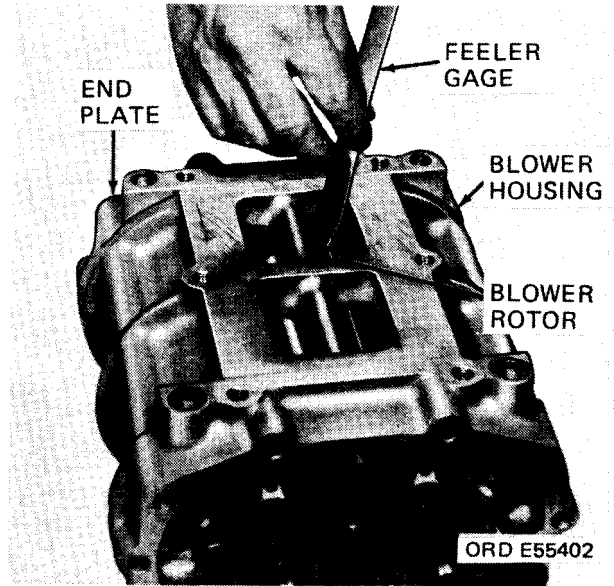

Figure 3-22. Measuring rotor lobe to end plate clearance.
(15) Measure the clearance between the end of the rotors and the front end plate as shown in figure 3-22. The clearance should be a minimum of 0.006 inch.